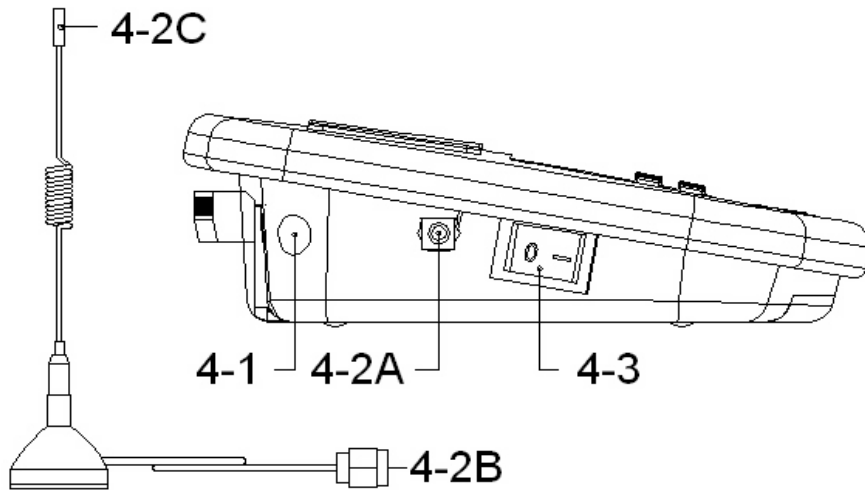

Fig. 2
- 2) Connect the " Antenna plug " ( 4-2B, Fig 2 ) to the " Antenna socket " ( 4-2A, Fig. 2 )
- 3) Connect the plug of the Power Adapter into " DC 9V power adapter socket " ( 4-1, Fig. 1, Fig. 2 )
- 4) Power on the unit by engage the " Power ON/OFF switch " ( 4-3, Fig. 1, Fig 2 ) to the ON position.